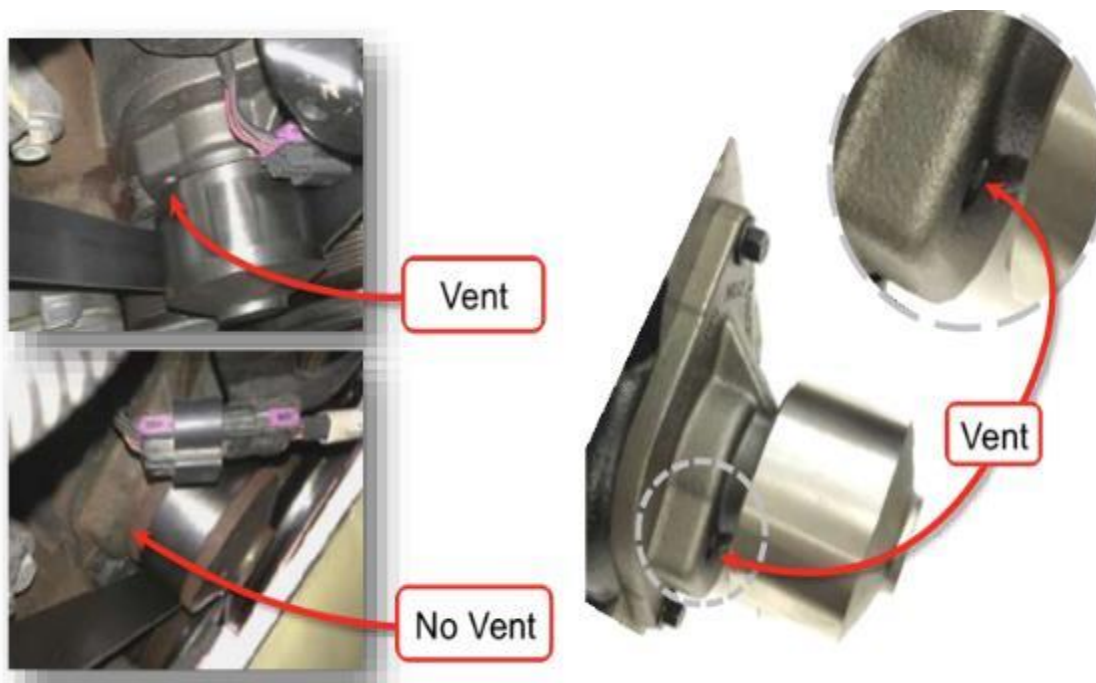

Figure 3 – Inspect for a Vent Hole (Concentric Only)
3. Inspect the Concentric water pump for a vent hole (Figure 3).
NOTE: The vent hole, if equipped, is located on the front surface of the water pump housing at approximately the 10 O'clock position behind the water pump pulley (Figure 3).